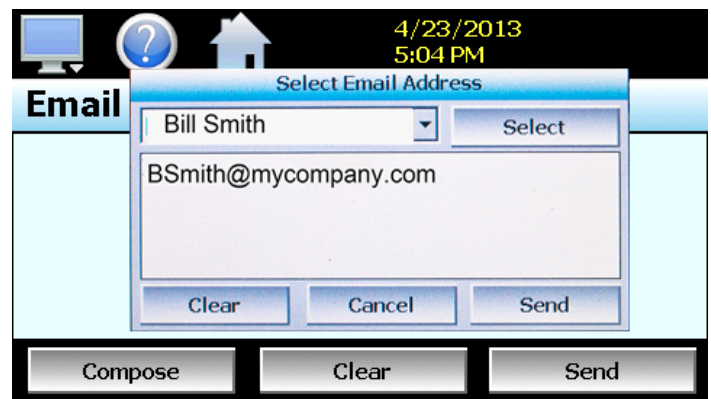

Fig. 98: Send Email
2. Press the "Send" button to select the e-mail recipients to receive the message (Fig. 98). Select recipient from the pop-up list and press Send.